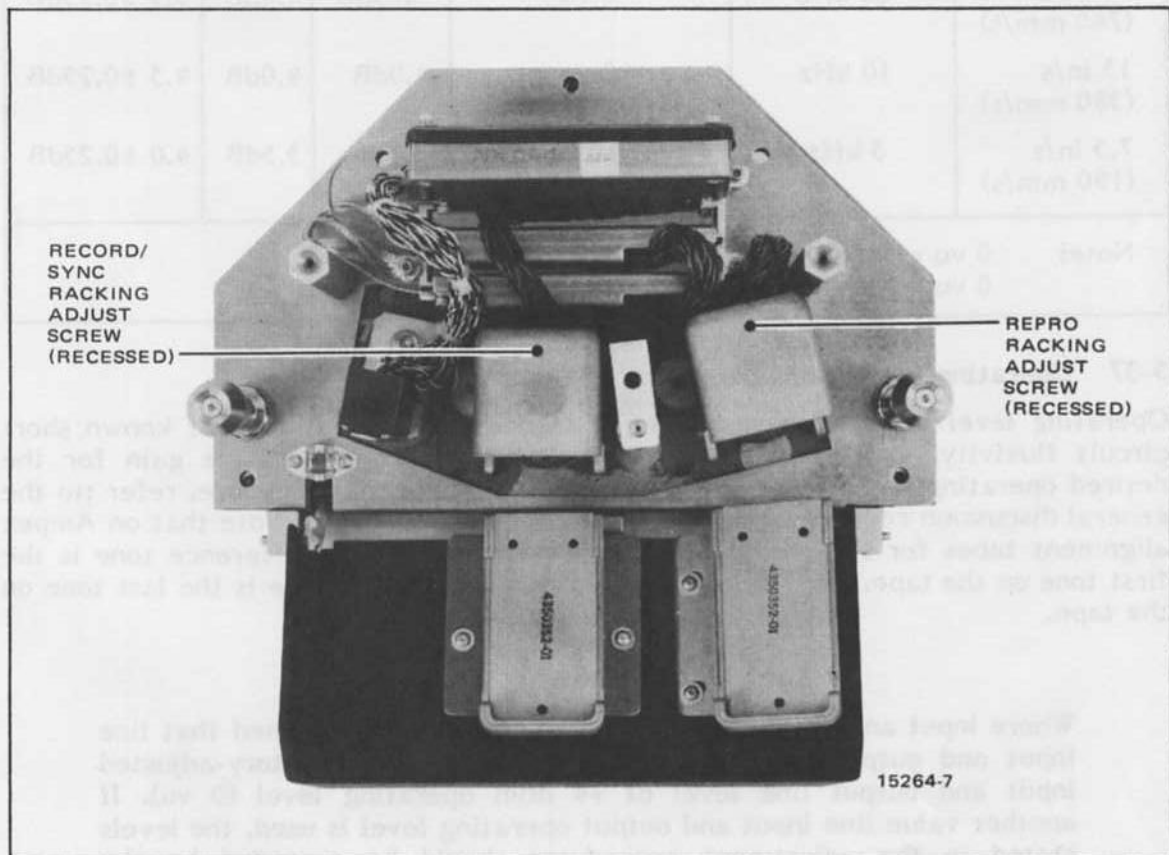

Figure 5-21. Racking Adjustment Screw Locations
- STEP 1 With an allen wrench, rotate racking screw (Figure 5-21) clockwise until reproduce head gap moves toward supply side. Mechanically set racking in center of its apparent mechanical adjustment range.